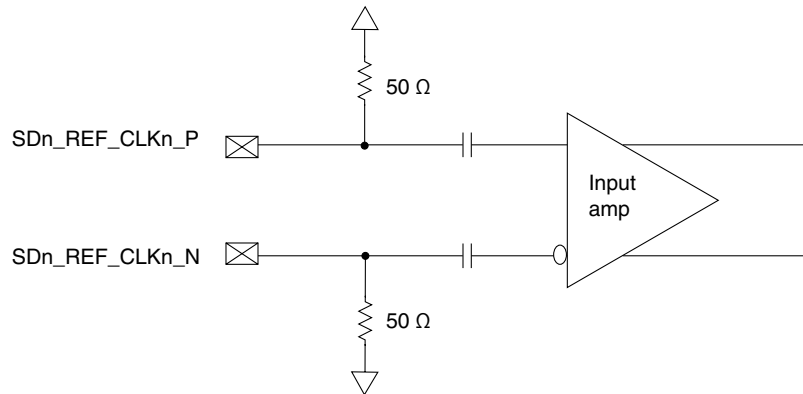

Figure 78. Receiver of SerDes reference clocks
- The $SDn_REF_CLKn_P$ and $SDn_REF_CLKn_N$ are internally AC-coupled differential inputs as shown in Figure 78. Each differential clock input ($SDn_REF_CLKn_P$ or $SDn_REF_CLKn_N$) has on-chip 50- Ω termination to $SGNDn$ followed by on-chip AC-coupling.
- For an external DC-coupled connection, as described in Figure 78, the maximum average current requirements set the requirement for average voltage (common mode voltage) as between 100 mV and 400 mV.